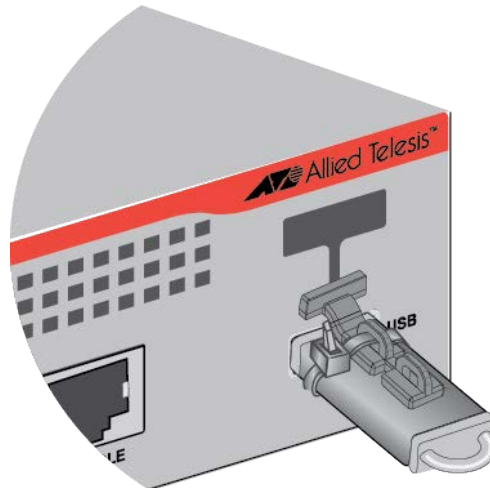

Figure 62. Securing the USB Device with One Twist Tie
6. Tighten the twist tie and cut off the excess. Refer to Figure 62.